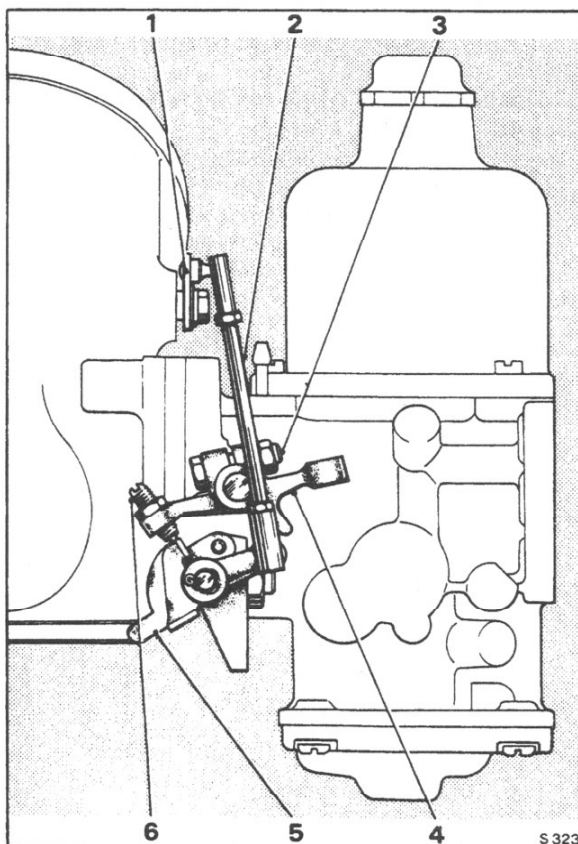

Fig. K93 Fast-idle mechanism
5. Slacken the lock-nut on either end of the butterfly rod and unscrew the rod (see Fig. K93).
1. Assemble the mechanism onto 'A' bank carburettor as shown in Figure K93.
2. Do not tighten the lever clamp nut and bolt (item 3).
3. Ensure that the adjusting screw (item 6) is in line with the fast-idle cam (item 5).
4. Insert the shank of a 2,54 mm. (0.10 in.) diameter drill between the top of the fast-idle cam and the boss carrying the fast-idle adjusting screw. Tighten the lever clamp bolt (item 3).
8. Fit the butterfly rod (item 2).
4. Open the throttle and close the choke strangler butterfly against the bi-metal tension using the control rod lever (Fig. K93, item 1), until the adjusting screw (Fig. K93, item 6) is resting on the tip of the fast-idle cam. At this point an extra load will be felt due to the action of the extended fast-idle plunger ceasing.